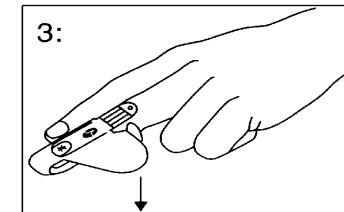
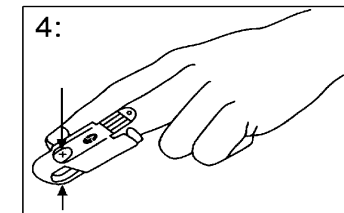

Fig. 26 Fixing of the emitter
Fig. 27 Correctly attached sensor: emitter and detector are aligned!
- Next, wrap the sensor with the emitter (\*) and finger design over the fingernail and secure the wings down one at a time around finger (Fig. 26). When properly applied, the emitter and the detector should be vertically aligned as shown (Fig. 27). Check position of sensor to verify correct positioning and reposition if necessary. Complete coverage of the detector window is needed to ensure accurate measurements.